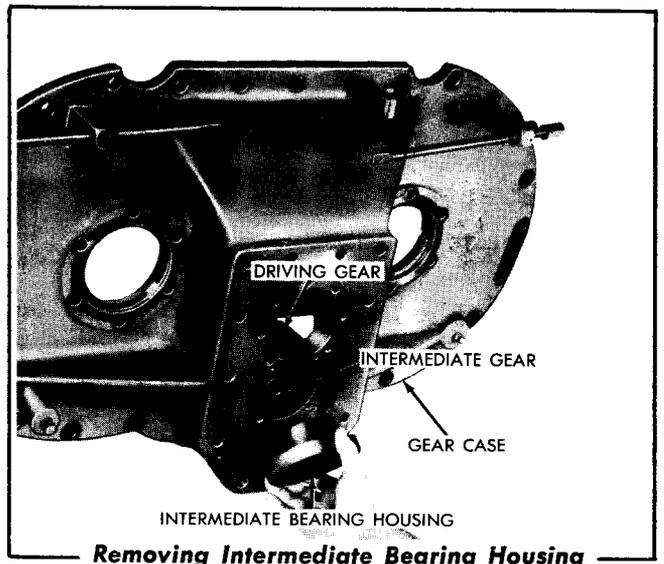

FIG. 39
18. Remove the four capscrews attaching the intermediate bearing housing (Fig. 39) to the gear case. Strike the rear end of the intermediate gear with a soft hammer to drive the bearing housing from the gear case and remove the bearing housing.